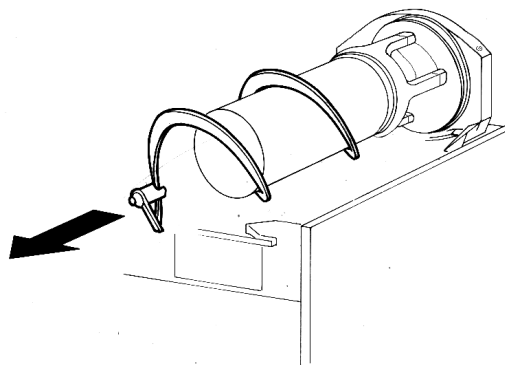

figure 8
- 3 - Slide the outer spiral out (see figure 8) and then the inside